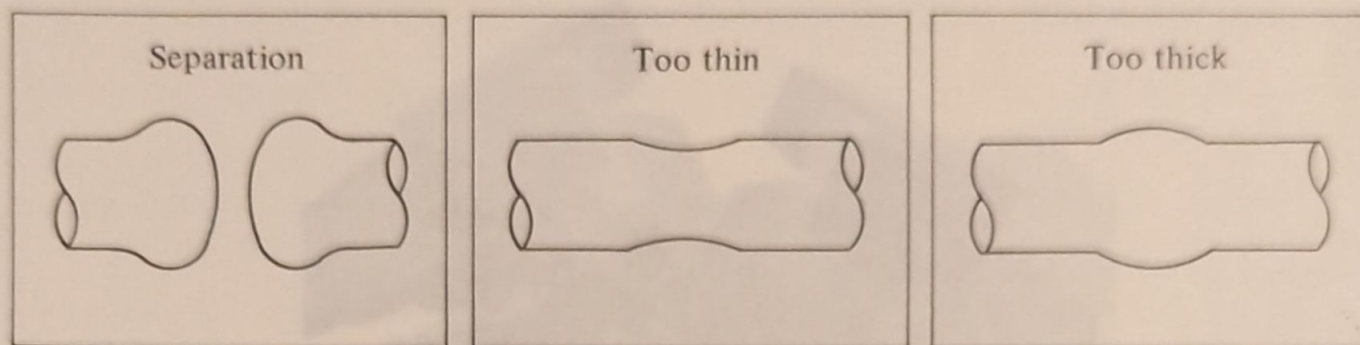

Fig. 22 Defective Spliced Results
- (2) If the spliced result is like the kind depicted in Fig. 22, the steps described in Table 7 should be taken.